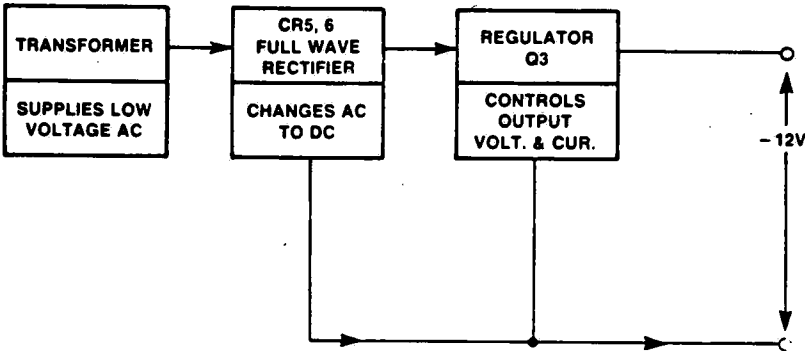

Figure 3-19. PRINTCON -12-VOLT POWER SUPPLY.
-12 VDC at 0.1 amp, voltage regulated (Figure 3-19).
4. The -12 VDC power supply operates by using voltage from the full wave rectifier (CR5 and CR6) which is filtered by C4. This filter circuit provides voltage to integrated circuit regulator Q3, through fuse F3, which regulates the output voltage (Figure 3-19).